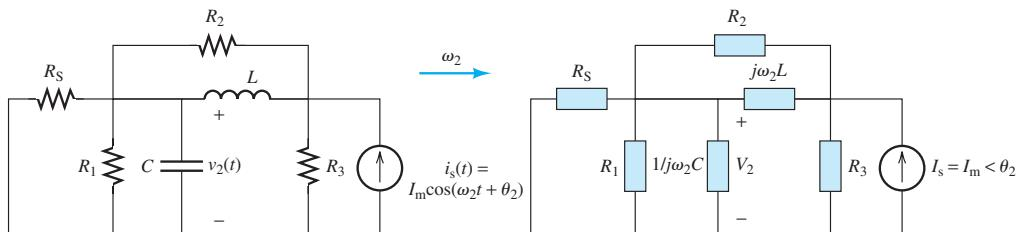

FIGURE 6.26 Circuit for Example 6.18.
2. Set $v_S(t)$ to zero to obtain the response $v_2(t)$ to $v_S(t)$. The corresponding circuit is illustrated in Figure 6.26.